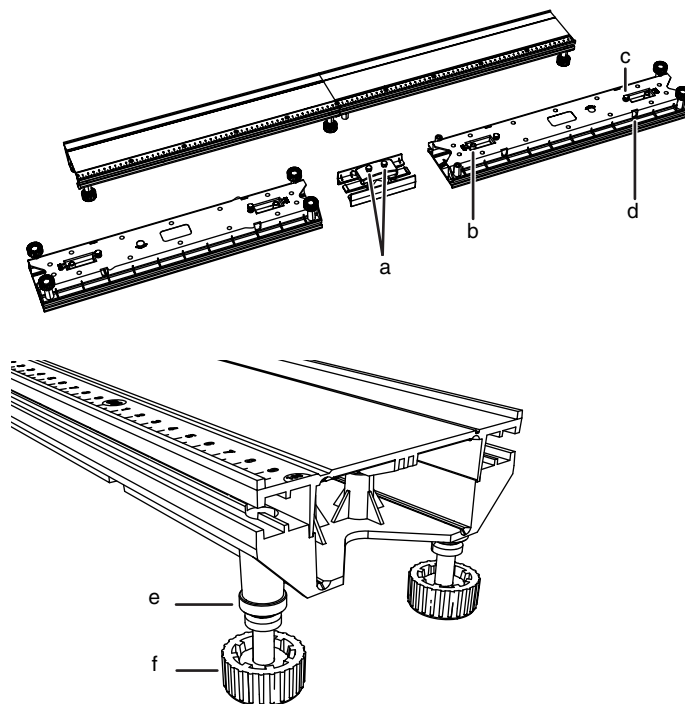
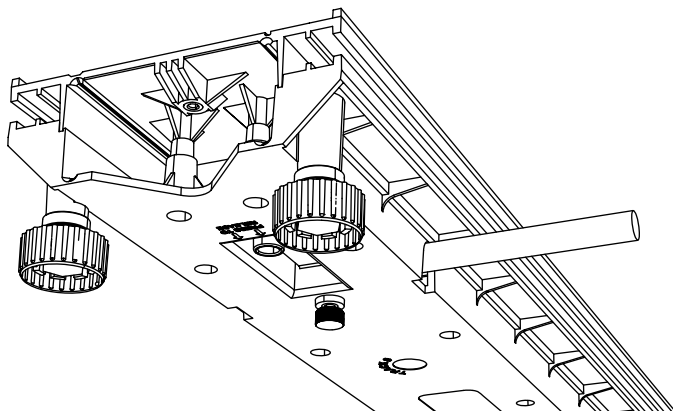

Figure 1
Figure 2
- Turn the track upside down and tighten the screws on the connector (part a in figure 1).
- Tighten the locknut of each foot (part e in figure 1).
Insert a rod into one of the rod clamp holes (figure 2) and secure it by tightening the rod clamp screw (part c in figure 1). Clamp the horizontal rod to a vertical rod.
- Press and hold the release tabs on the bottom of the track (part b in figure 1).